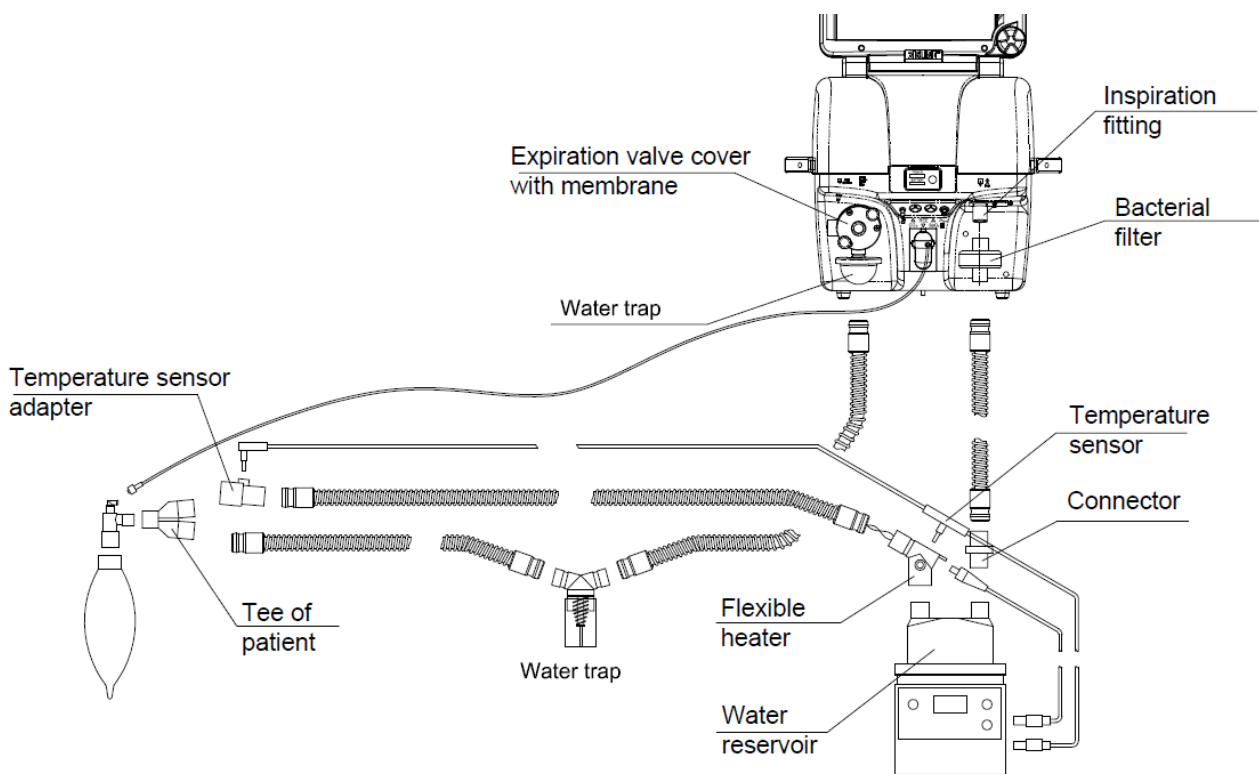
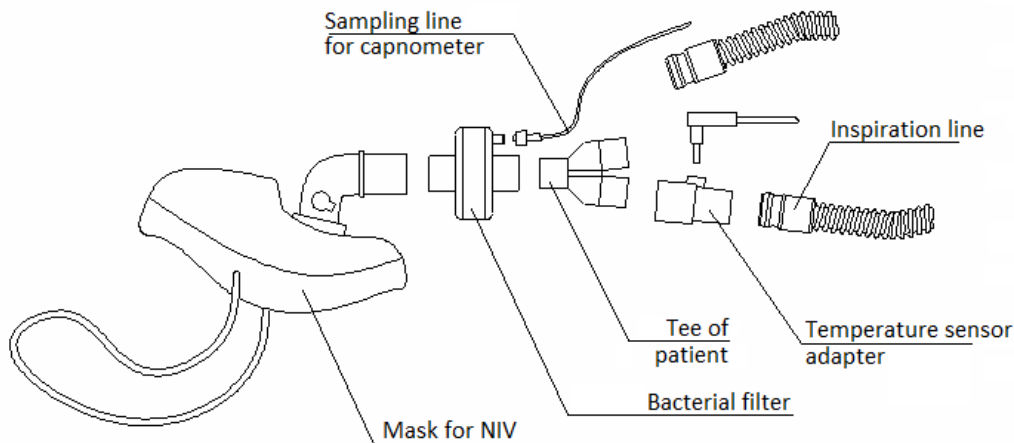
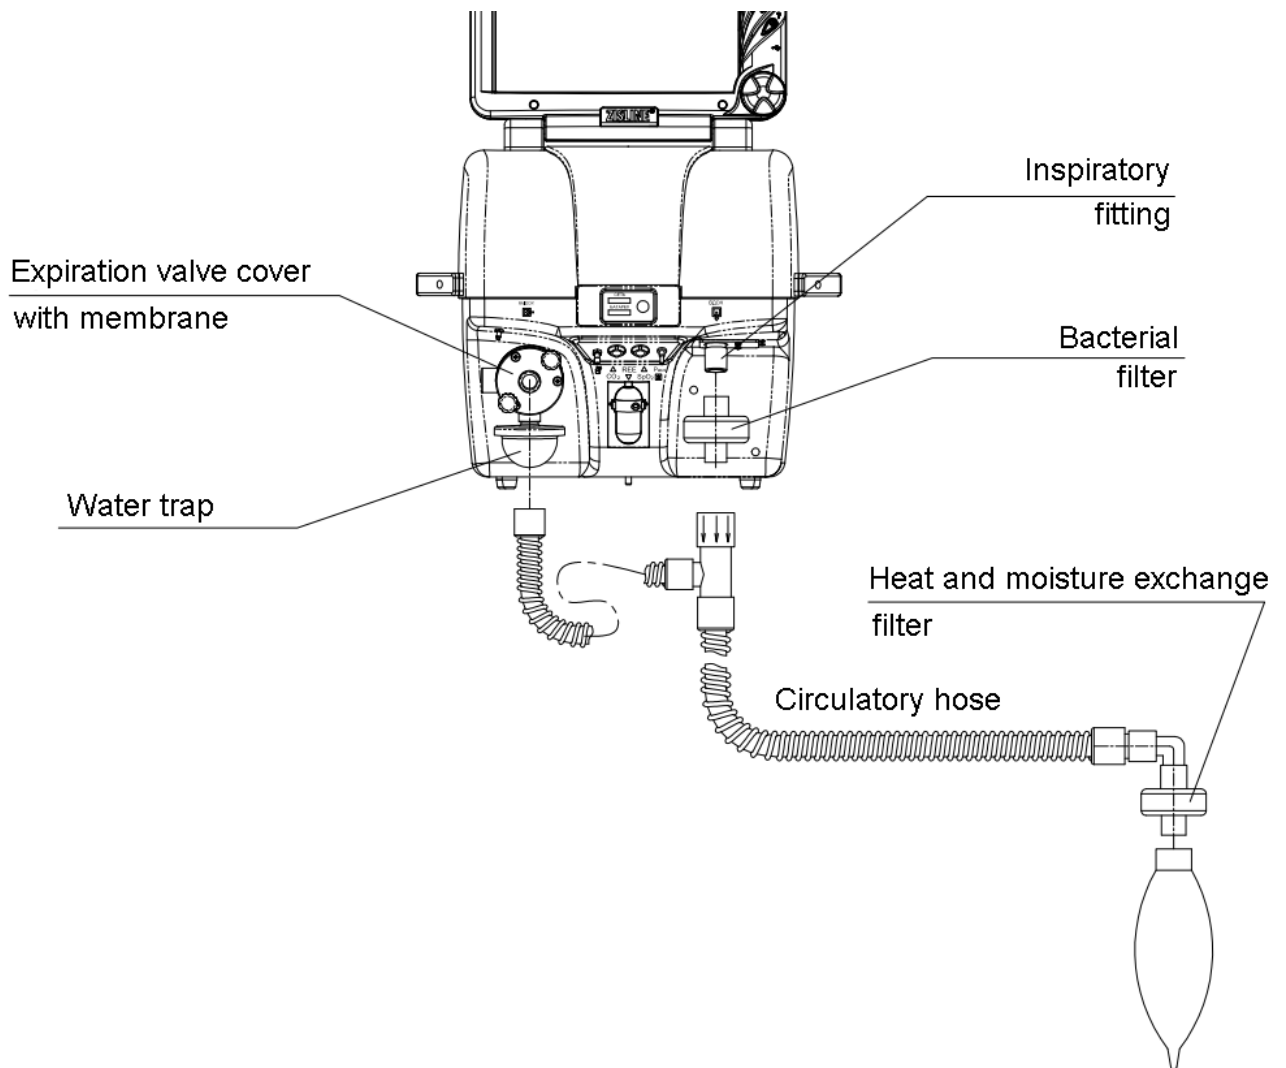

Figure 3.6 – Assembly of the disposable or reusable breathing circuit with humidifier MR850 with the heated hose and temperature sensor
Figure 3.10 – Assembly of the breathing circuit with the mask for NIV (optional)
Figure 3.12 – Connection of the coaxial breathing circuit
- Prepare elements of the breathing circuit, filters, breathing bag (test lung), and water trap of oximeter channel of metabolism module from the delivery kit. Depending on circuit type assemble it as shown in Figures 3.6 – 3.9. For connection of the coaxial breathing circuit refer to Figure 3.12. Assembly diagram of the breathing circuit with the mask for NIV (optional) is shown in Figure 3.10.